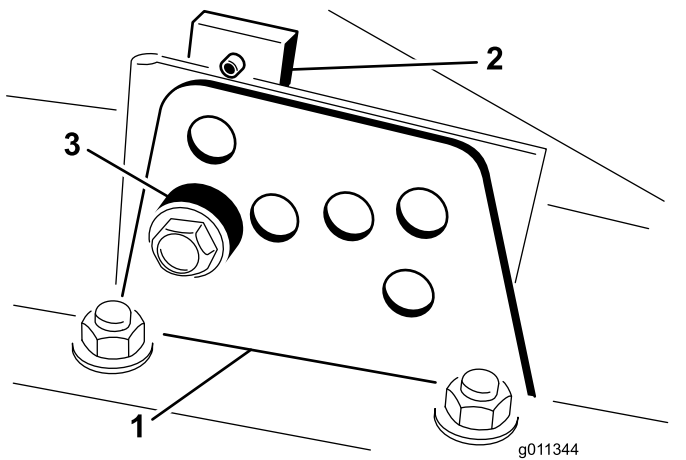

Figure 15
2. Loosen the bolt securing each height-of-cut bracket to the height-of-cut plate (front and each side) as shown in Figure 15.